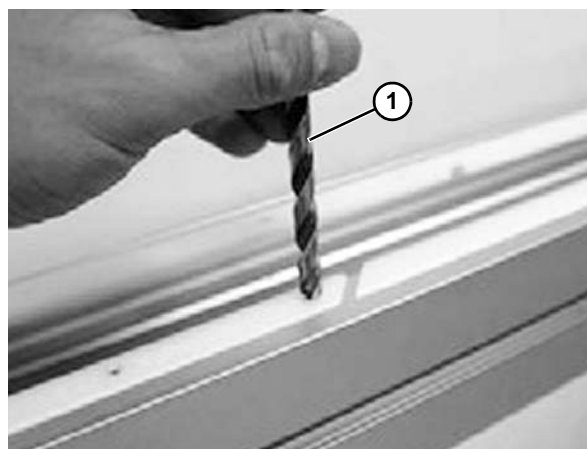

Figure 41
2. Use a bigger drill bit or countersink bit (**Figure 41, item 1**) to deburr and countersink the holes. Also make sure that there are no metal filings left underneath the slide rail.